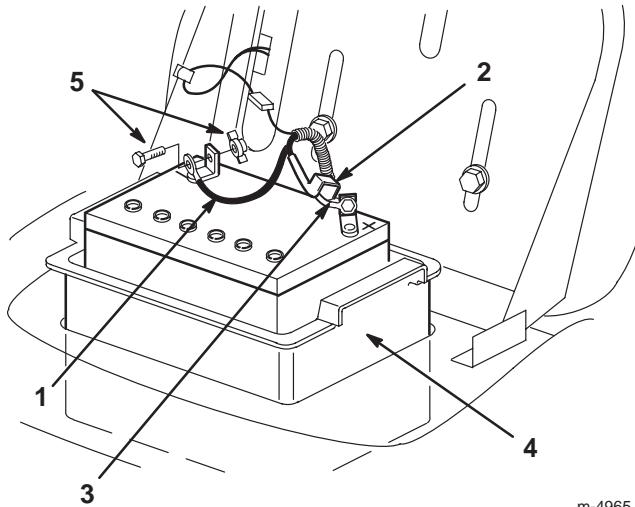

Figure 15
7. Disconnect the negative (black) ground cable from the battery post (Fig. 15).
9. Disconnect the positive (red) cable from the battery post (Fig. 15).
10. Remove the battery box and battery from the chassis (Fig. 15).
1. Put the battery into the battery box and install it into the chassis (Fig. 15).
2. Using the bolt and the wing nut, connect the positive (red) cable to the positive (+) battery post (Fig. 15).
4. Using the bolt and wing nut, connect the negative (black) cable to the negative (-) battery post (Fig. 15).